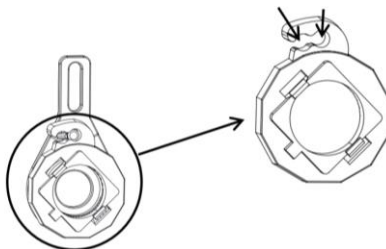

Fig. 6
5. Loosen the tension adjustment knob (C) on the side to adjust the helmet's vertical tilt. You may hear a "click" sound as the helmet moves up or down.
6. The helmet includes a locking buckle with two positions. This lets you lock the helmet in a raised position after welding, making it easier to inspect your work (Fig. 6).